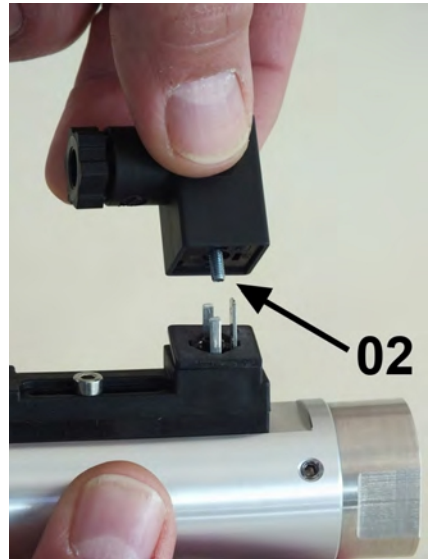

Fig. 53: Remove the female socket
2. ➤ Remove the female socket and gasket (Fig. 53/02) by pulling upwards.